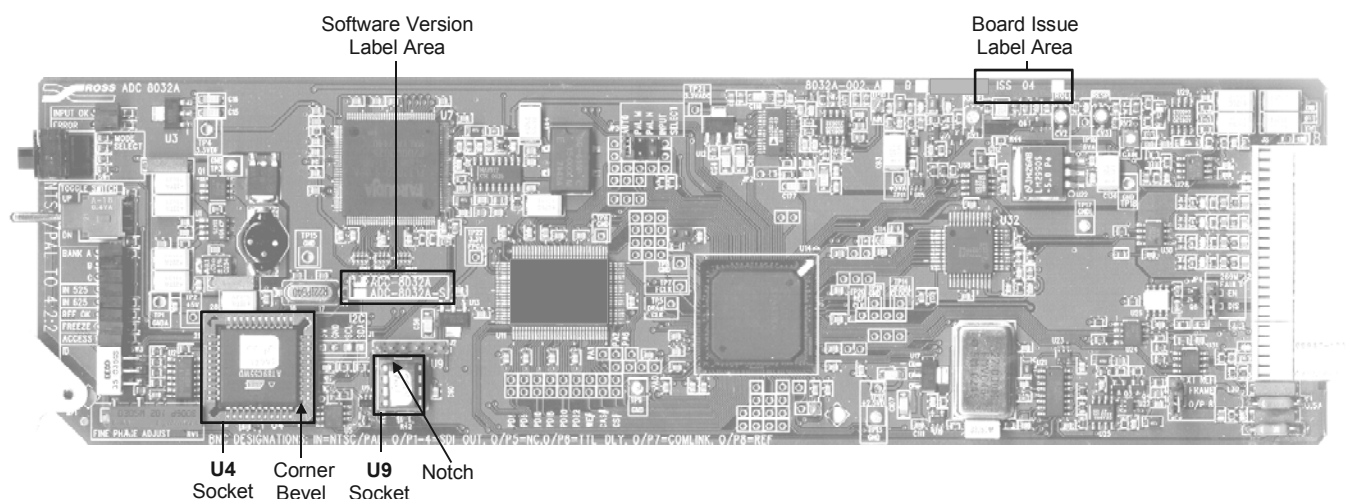

Figure 1. ADC-8032A Frame Synchronizer Socket and Label Location
3. Refer to Figure 1 and the card labeling to locate the existing IC chip in socket **U4**. Note the matching beveled corner orientation of the chip and the socket.
1. Refer to Figure 1 and the card labeling to locate the existing IC chip in socket **U9**. Note the orientation of the notch on one of the chip's non pinned edges.
8. Document the upgrade by marking the white box beside the appropriate label on the card (ADC-8032A-S). See Figure 1 for the Model Number Label Area location.